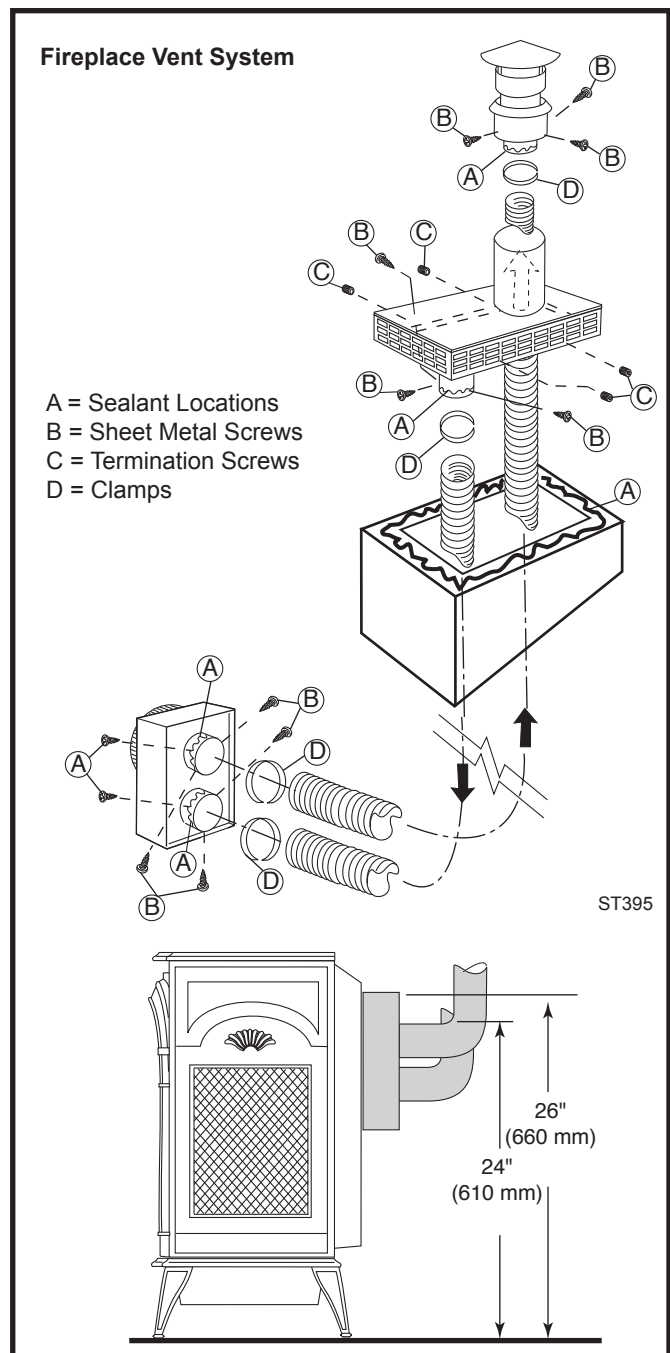
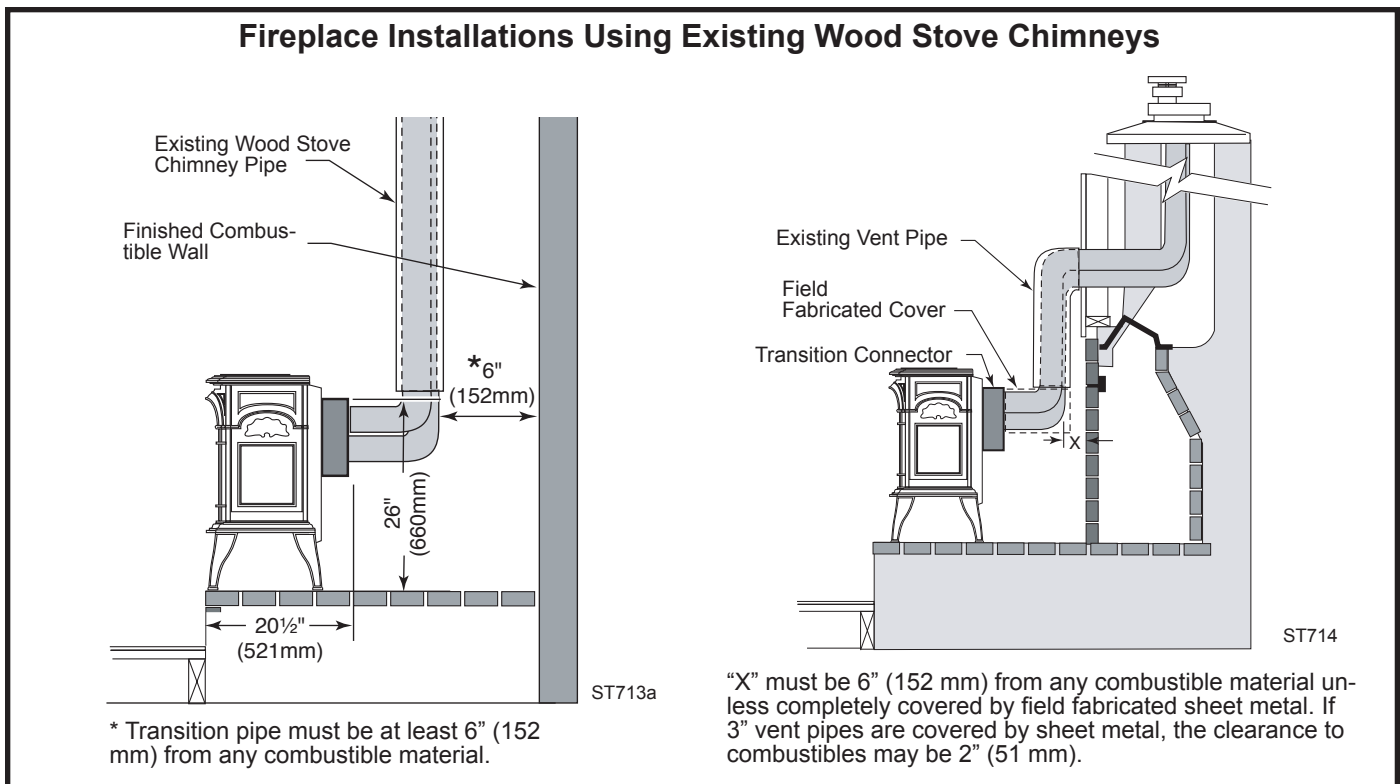

Fig. 33 Fireplace vent system installation.
Fig. 35 Installations using existing wood stove chimney pipe.
**NOTE:** The collar extending down from the Termination base is the air intake collar. Use the flex vent liner, marked with a **blue line**, to connect between this collar and the lower flue collar on the Transition Connector. Also make sure the other flex vent liner is attached to the upper Transition Connector collar and the Rain Cap. (Fig. 33)
6. Apply high-temperature sealant to the top of the chimney. Feed the two liners down through the chimney flue and damper opening. Fasten the termination assembly to the chimney with the four set screws (C) provided.
8. Attach the flex liners to the Transition Connector, using high-temperature sealant and clamps as shown in Figure 35. Prop the connector in rough position until the heater is in place in front of it.